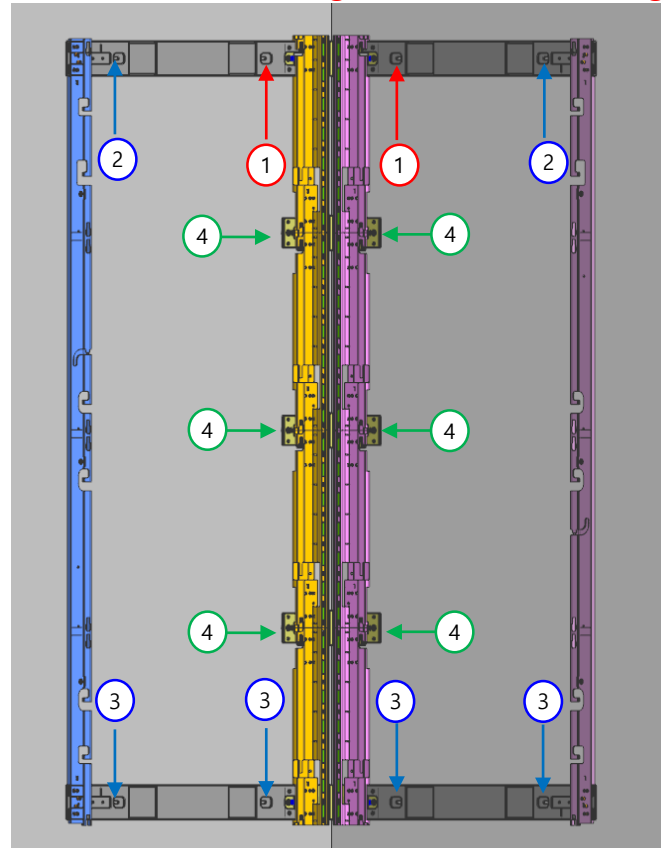

Fig.2
* Close to the wall according to the orthogonal structure, fasten one of the first positions, check horizontally, and fasten the remaining 2 / 3 position (Fig.2)